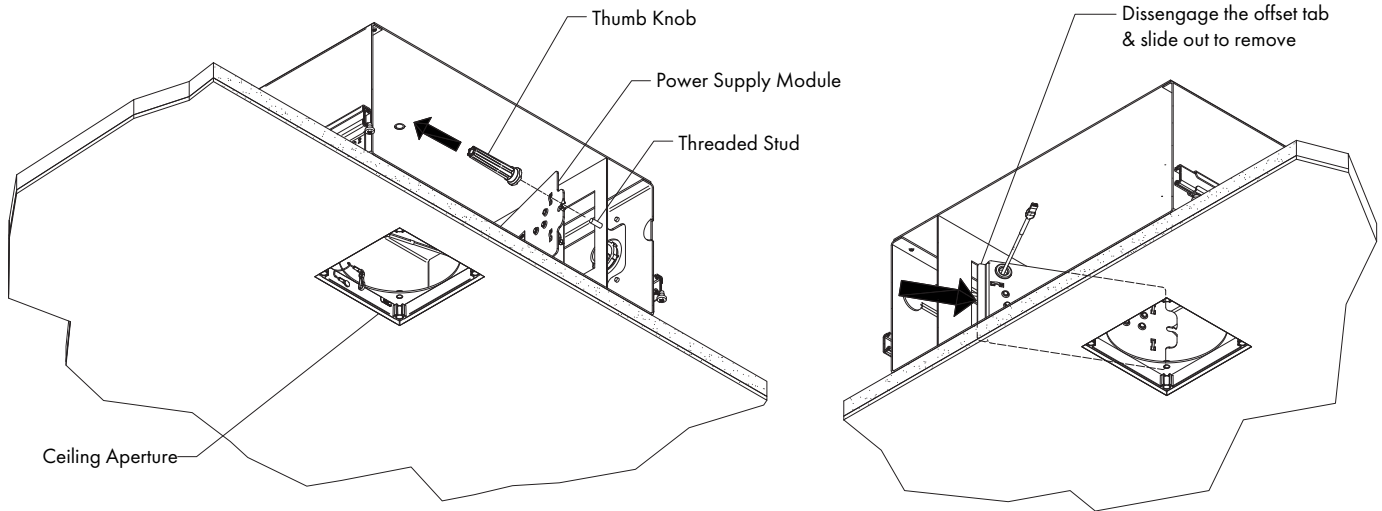

FIG 14.1 Remove Thumb Knob & Disengage Power Supply Module (Model 804 shown)
STEP 2 Unscrew & remove Thumb Knob inside Housing as shown. Tilt Power Supply Module to disengage offset tab from housing as shown - **FIG 14.1**.